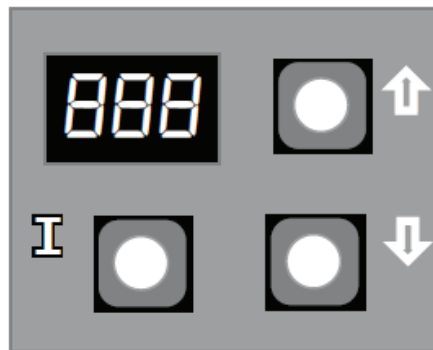

Figure 1 Control Display
The control is located on the front panel inside the boiler. The control display, along with Up , Down , and "I"  keys may be used to view boiler operating status and program parameters (Figure 1).
1. Press with Up ▲, Down ▼, and “I” keys (see Figure 1) simultaneously for three seconds.